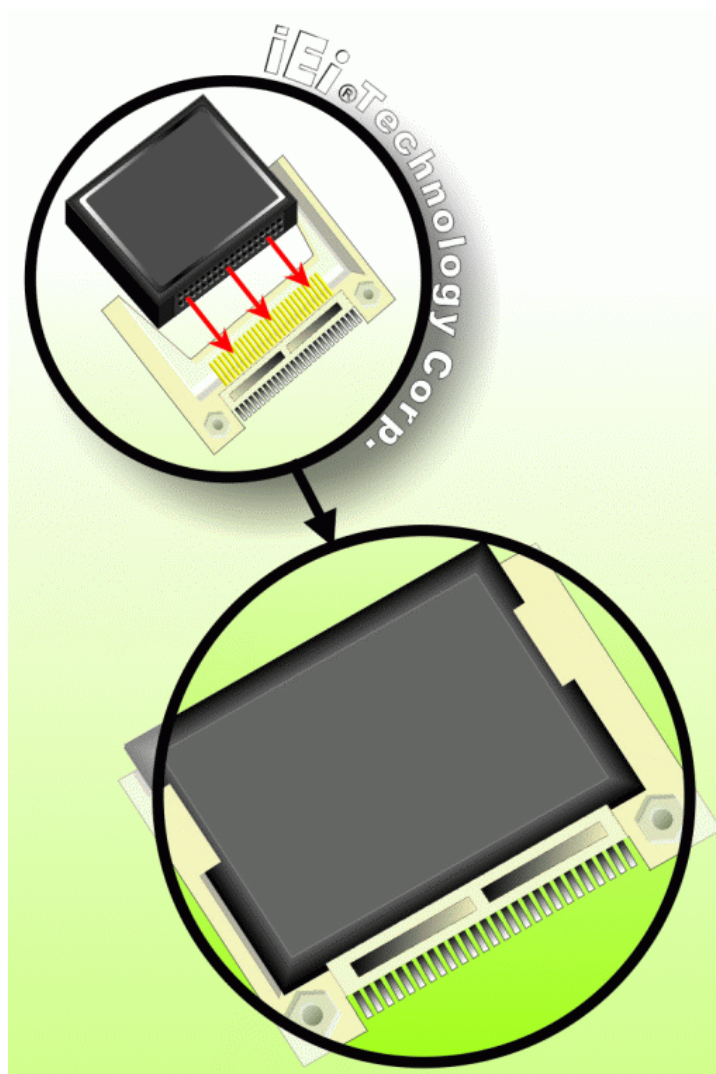

Figure 5-7: CF Card Installation
Step 3: Insert the CF card. Gently insert the CF card into the socket making sure the socket pins are properly inserted into the socket. See **Figure 5-7**.